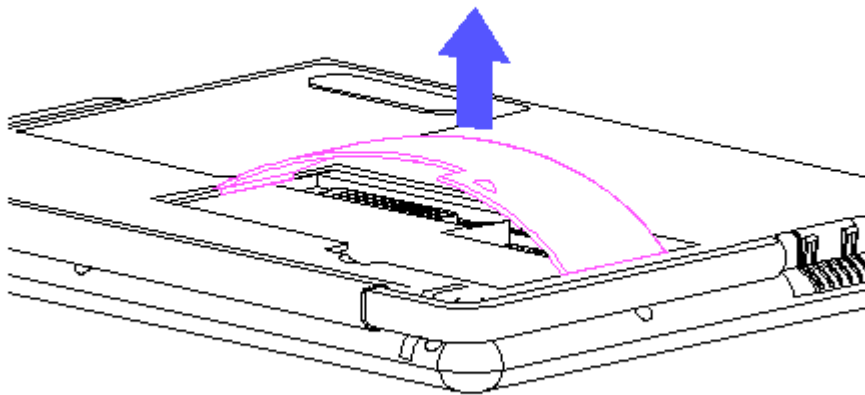

Figure 3-20. Removing the I/O Door
1. Slide the door to the center of its travel to disengage the retaining hooks that secure the door in a closed position (Figure 3-20).
2. Lift the door near its center and flex it enough to allow the ends to slip out of the tracks (Figure 3-20). Reverse this process to install a new I/O door.